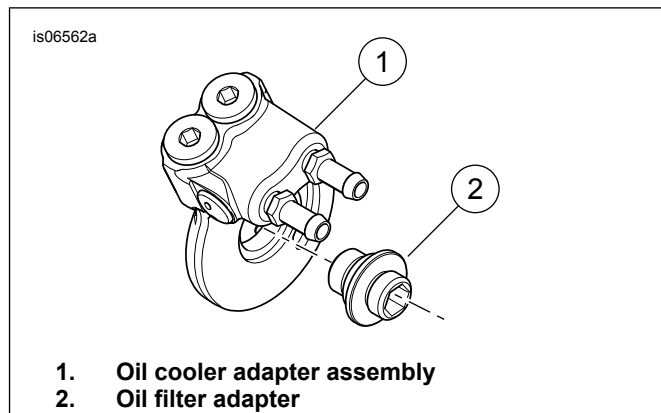

Figure 4. Install Oil Cooler Adapter Assembly
4. See Figure 4. Install oil cooler adapter (1) and oil filter adapter (2). Tighten oil filter adapter to 16.3–21.7 N·m (12–16 ft-lbs).